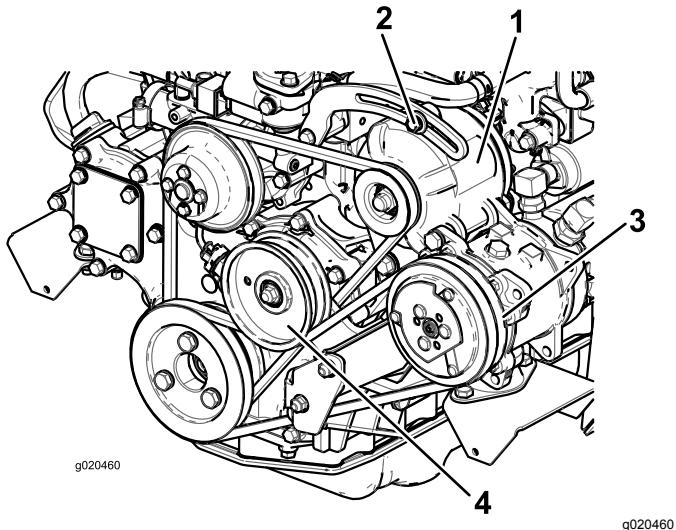

Figure 96
Check the condition and tension of the belt (Figure 96) after every 100 operating hours.
2. If the deflection is not 10 mm (3/8 inch), loosen the alternator mounting bolts (Figure 96). Increase or decrease the alternator belt tension and tighten the bolts. Check the deflection of the belt again to ensure that the tension is correct.
2. If the deflection is not 10 mm (3/8 inch), loosen the idler pulley mounting bolt (Figure 96).